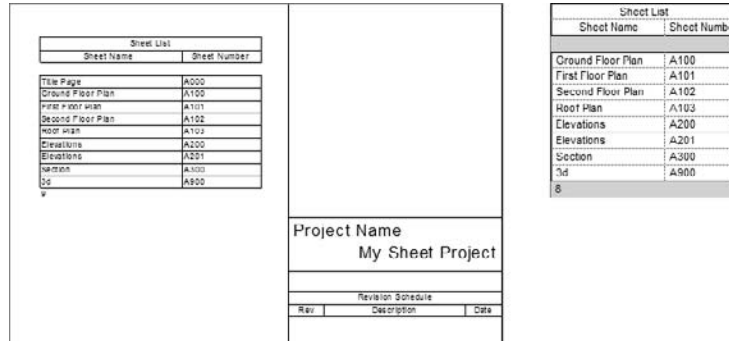

Figure 14.31
6. Drag the schedule called Sheet List from Schedule/Quantities in the Project Browser into the drawing sheet (Figure 14.31).